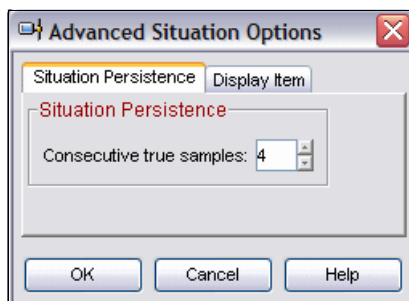

Figure 5-8 Situation persistence pop-up menu
7. Click **Advanced** and set Situation Persistence to four consecutive samples (see Figure 5-8 on page 185). This means that the situation will only be triggered if the condition is true on four consecutive tests. Each test will take place on the sampling interval.